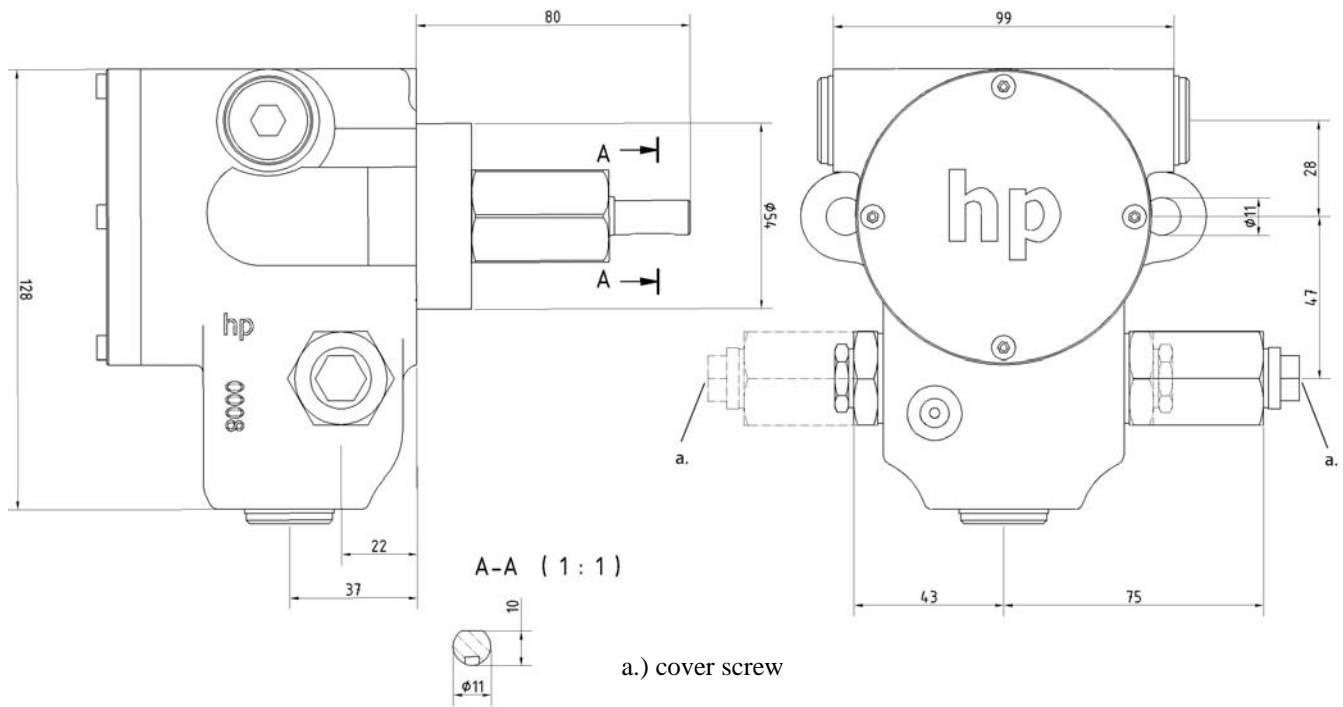

Fig. 4
- Remove the screw plug for connecting the manometer (Fig.4). For this, observe a suitable manometer pressure range (according to the pump's pressure range).
- For pressure regulation, the plug screw (see figure 4) must be removed.